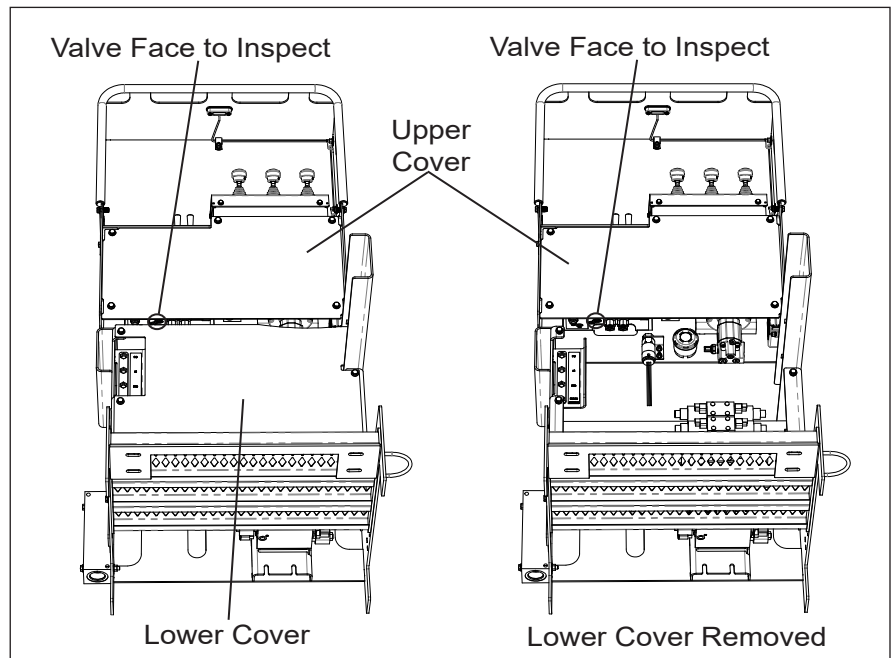

Figure 2 – Locating Valve Face
3. Use a flashlight to determine if the middle portion of the bottom face of the elevator control valve is visible through the gap between the upper and lower covers or through the notch in the left side of the lower cover (refer to Figure 2). If the valve face is not visible, remove the lower cover.